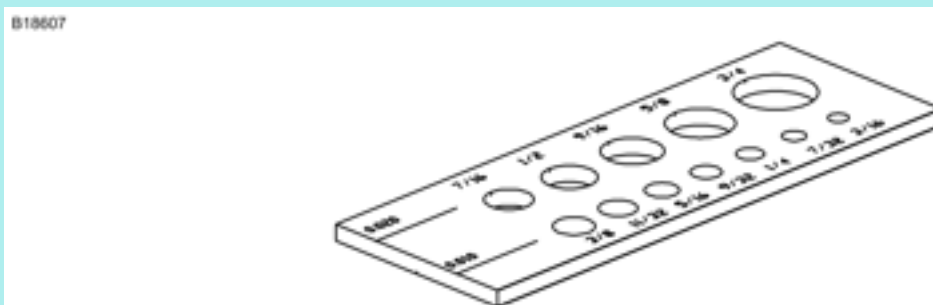

Figure 3
- (3) Reference Standards
- (a) Nonferrous reference standards should be of an alloy having the same major base metal, basic temper and the approximate electrical conductivity of the material for inspection. Refer to Figure 3Figure 3.
- (4) Surface Condition
- (5) Instrument Standardization
- (c) A 0.020 inch (0.508 mm) deep surface notch or smaller must be used for calibration unless otherwise specified. A typical eddy current surface reference standard with EDM notch depths of 0.010 inch, 0.020 inch, and 0.040 inch (0.254 mm, 0.508 mm, 1.016 mm) is shown in Figure 3.
- (3) Reference Standard
- (a) Nonferrous reference standards should be of an alloy having the same major base metal, basic temper and the approximate electrical conductivity of the material for inspection. Refer to Figure 3.
- (4) Inspection Considerations
- (c) A corner notch no larger than 0.050 inch x 0.050 inch (0.127 mm x 0.127 mm) must be used for calibration unless otherwise specified. A typical eddy current bolthole reference standard is shown in Figure 3.